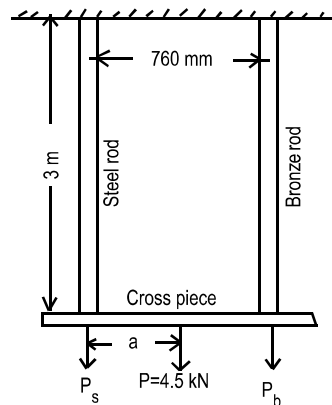

Fig. 4
- (b) Two vertical rods as shown in Fig. 4, one of steel and the other of bronze, are rigidly fastened at upper ends at a horizontal distance of 760mm apart. Each rod is 3m long and 25mm in diameter. A horizontal cross-piece connects the lower ends of the bars. Where should a load of 4.5 kN be placed on the cross piece so that it remains horizontal after being loaded?